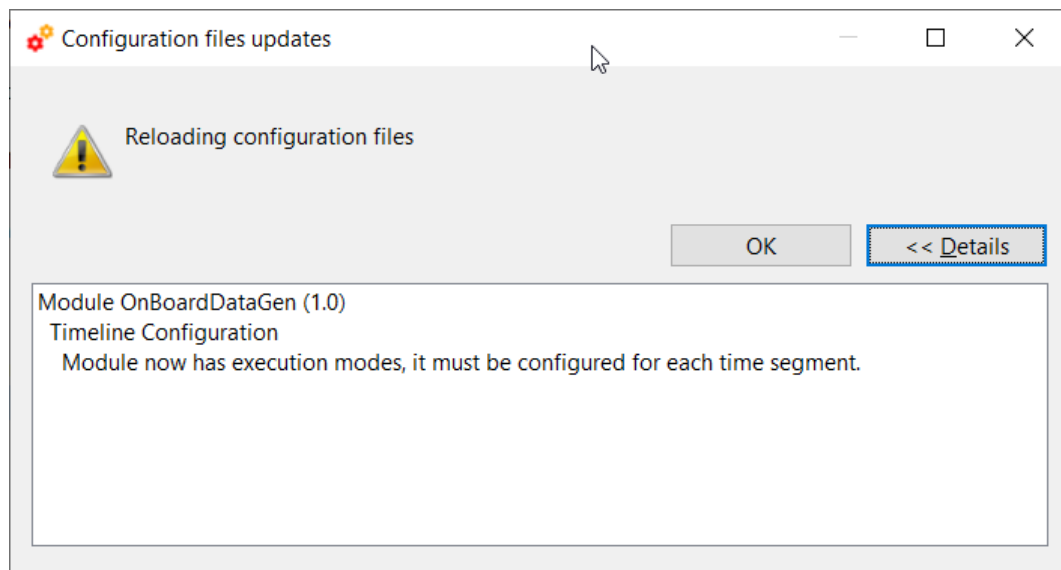

Figure 4-122: New executions modes for a module warning
- If any parameter has been added or deleted from the configuration files of any active module involved in the simulation, the execution will not be carried out, and a dialog will be displayed listing the configuration issues as shown in Figure 4-122. See section 4.4.2.6 for details.